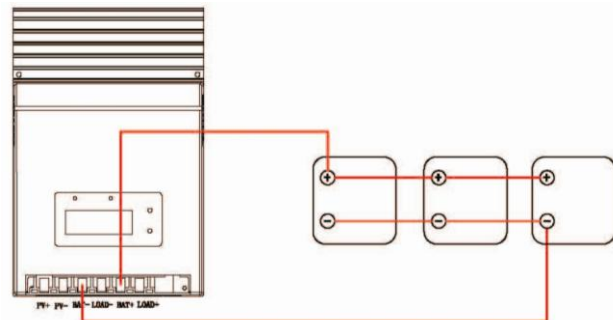

Figure 3-6. Batteries in parallel connection
**2) Multiple batteries in parallel connection(Refer to Fig.3-6):** Each battery's voltage must be equal to the Nominal DC Voltage of the unit.